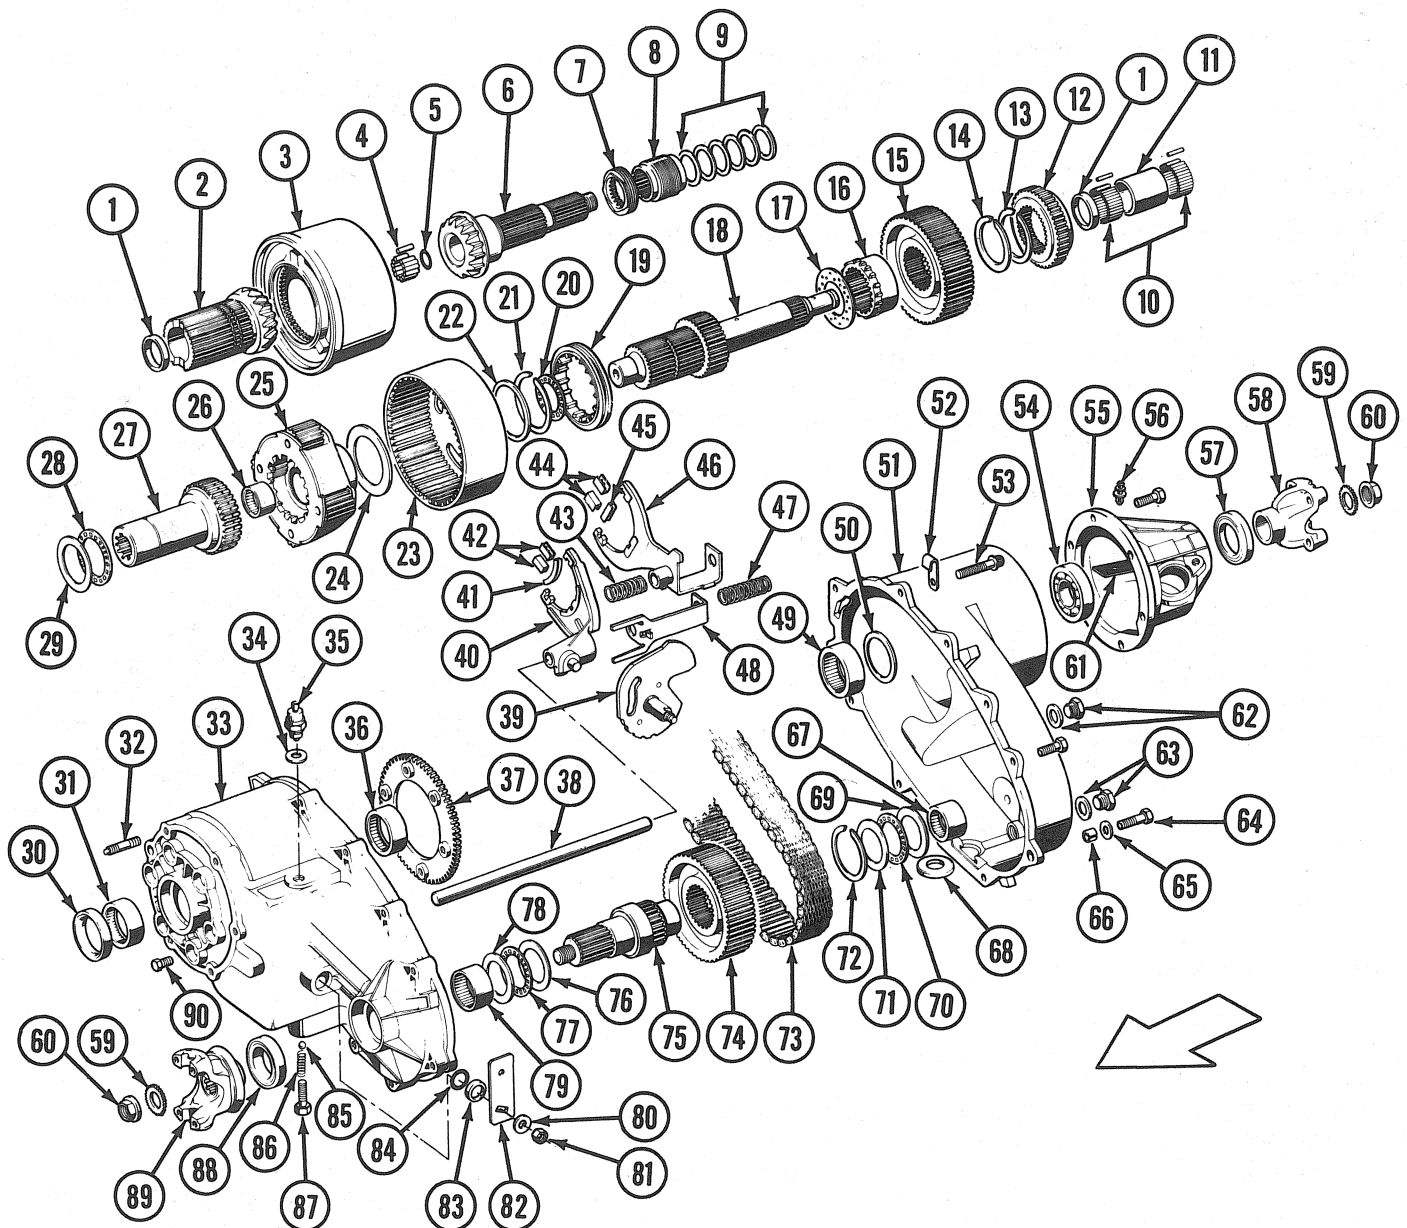

Fig. 2D-44 Model 219 Quadra-Trac Transfer Case
(1) Remove fill and drain plugs. Drain lubricant from transfer case.
(2) Remove front and rear output shaft yokes (fig. 2D-44). Discard yoke seal washers and yoke nuts.
(3) Mark rear retainer and rear case for assembly alignment reference.
(4) Remove rear retainer attaching bolts and remove retainer. Use plastic mallet to loosen retainer if necessary. Do not pry retainer off rear case.
(5) Remove differential shim(s) and speedometer drive gear from rear output shaft (fig. 2D-45). Tag shim(s) for assembly reference.
(7) Remove rear output shaft seal from rear retainer using screwdriver or punch.
(8) Position front case assembly on wood blocks (fig. 2D-46).